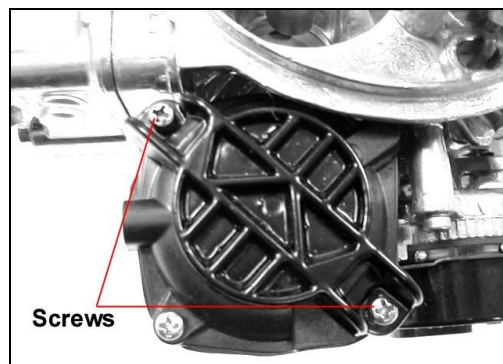

Figure 17
8. Tighten the two Phillips screws securely and reinstall the air cleaner, as shown in **Figure 17**.